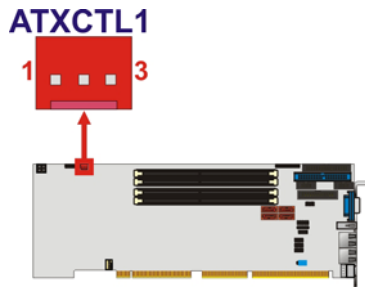

Figure 3-4: Backplane to Mainboard Power Connector Location
- CN Location:** See Figure 3-4